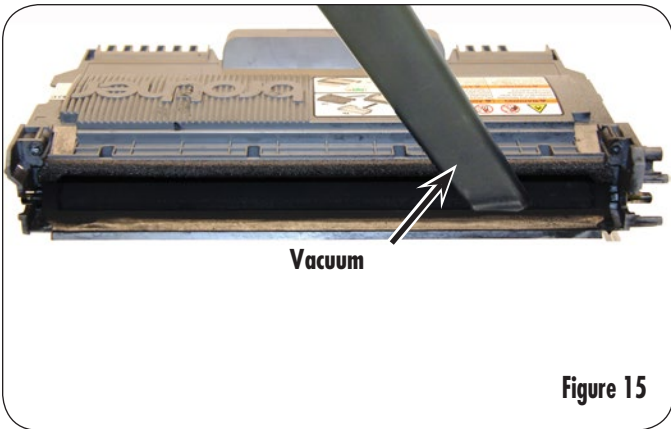

Figure 15
- 15. Vacuum the adder roller as shown in Figure 15.